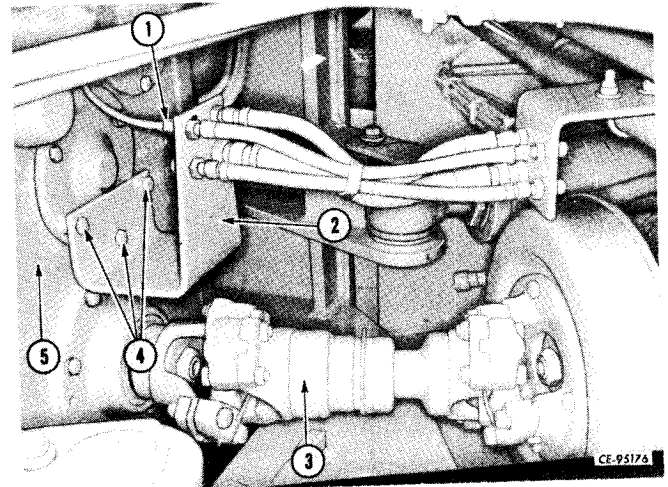

Figure 4-85
Connect transmission-to-parking brake drive shaft (3, Fig. 4-85) to transmission (5). Install hose support (2) and secure with cap screws (4). Connect line (1) to transmission.